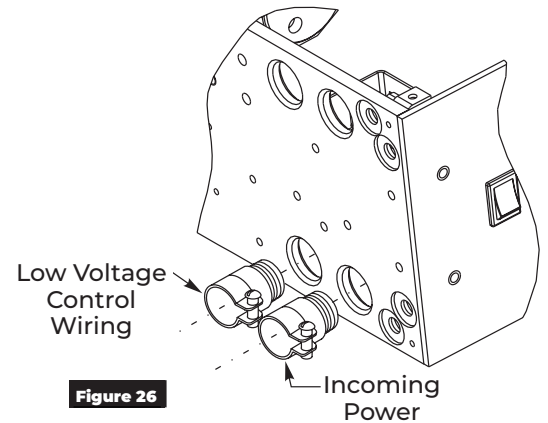

Figure 26
1. Secure conduit fitting(s) onto backplate. (Figure 26)